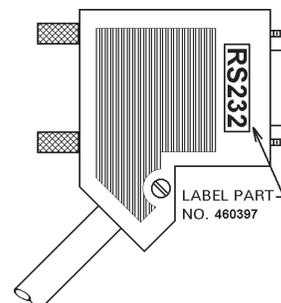

Figure A-2. RS232 Connector labeling
5. Complete assembly by installing provided labels on all connectors as shown in Figure A-2.